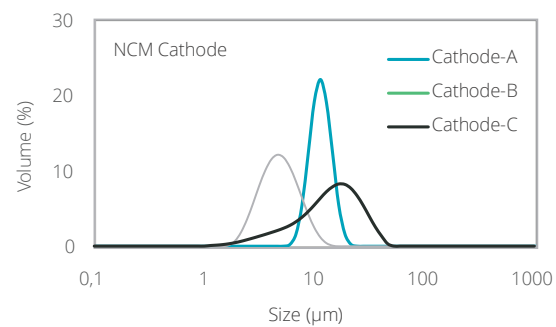

Figure 1 Particle size distribution of three batches of NCM811 cathode materials synthesized with different processing parameters
Example Cathode Materials Circular Equivalent (CE) size distribution of three NCM cathode materials, as obtained from Morphologi 4 (Figure 3). These are the same samples as those measured with the Mastersizer 3000 in Figure 1. Circularity for these samples is compared in Figure 4. Circularity index 1 corresponds to perfect spheres and smaller values to larger deviation from circularity. A narrow distribution in circularity means uniform shape particles, whereas broad distribution represents large variance in particle shapes. Cathode A has circular particles, whereas B and C are irregularly shaped with large shape variations.